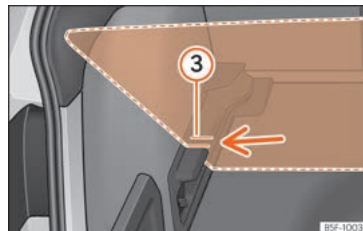

Fig. 194 Variable boot floor: tilted grooves.
» Fig. 194 ③.
- Run the floor through these grooves with the help of handle ① as the rear seat back-rest and until the floor is resting in the grooves.